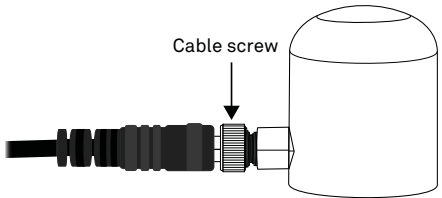

Figure 1 Attach M8 connector
- 2. Tighten the cable screw until hand-tight (Figure 1).